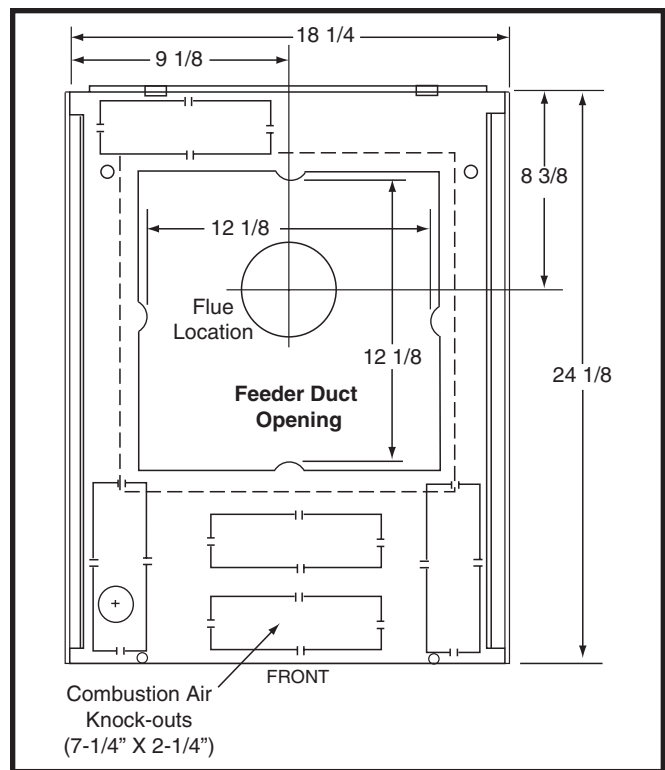

Figure 4. MA-200 Base Pan
1. Using the base pan (Figure 4) as a guide, locate and mark the 12 1/8" x 12 1/8" opening for the Feeder Duct. **NOTE:** If using the combustion air duct, knock out the duct opening to be used and mark the 2-1/4" x 7-1/4" opening on the floor also.